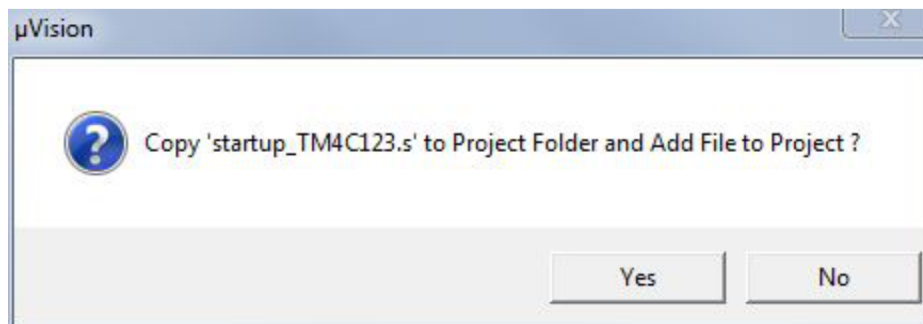

Figure 14.
- The tool asks whether you want to add startup code to the project (see Figure 14). You can click Yes or No, but just know that you do need to have startup code whether it is provided by Keil or you get it elsewhere. For this example, we will add the startup code provided by the tool.